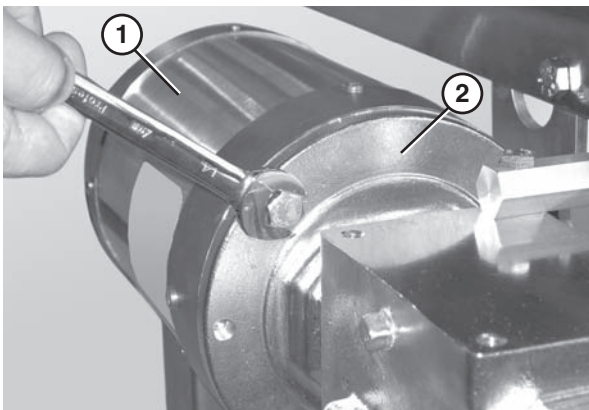

Figure 27
1. Remove the bolts that connect the motor (Figure 27, item 1) to the gear reducer (Figure 27, item 2).